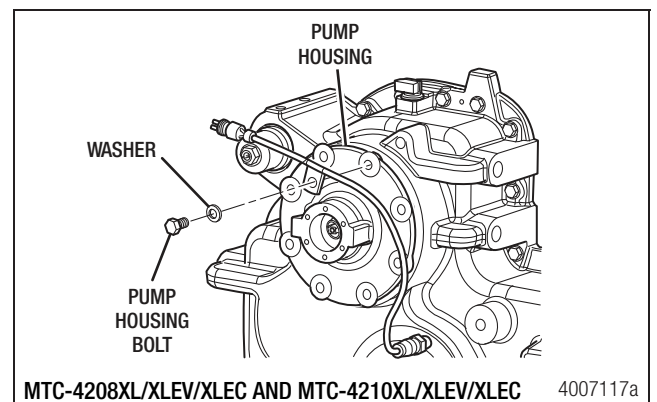

Figure 7.44
5. Install the pump housing and align with the transfer case alignment dowels. Tap the cover into place with a mallet. Figure 7.44.